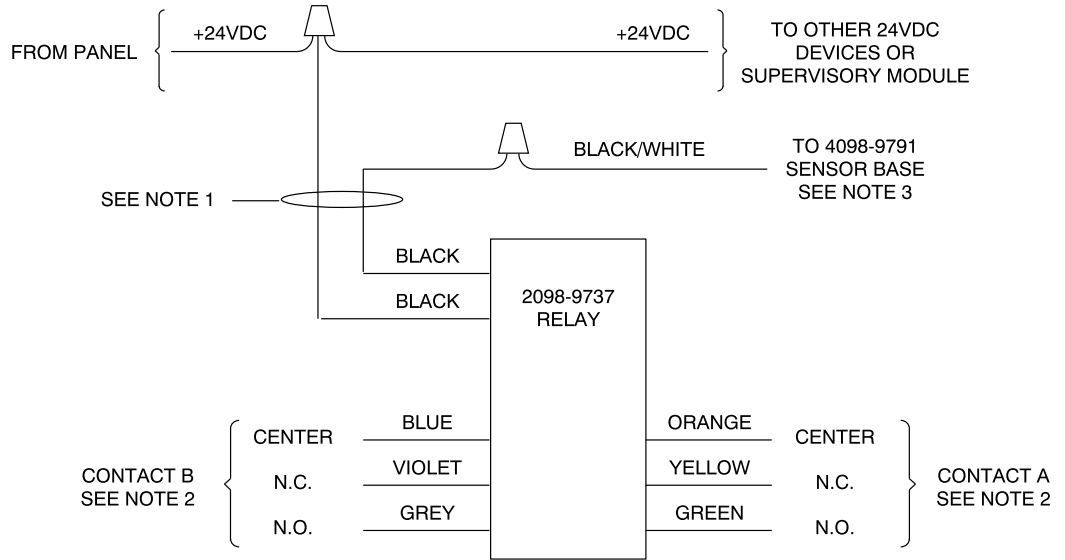

Figure 4-1. 2098-9737 Relay Module Wiring
2. Mount relay module inside extension ring directly behind base and sensor. **Do not mount remotely.** See Figure 4-1 or 4-2 for relay module connections.